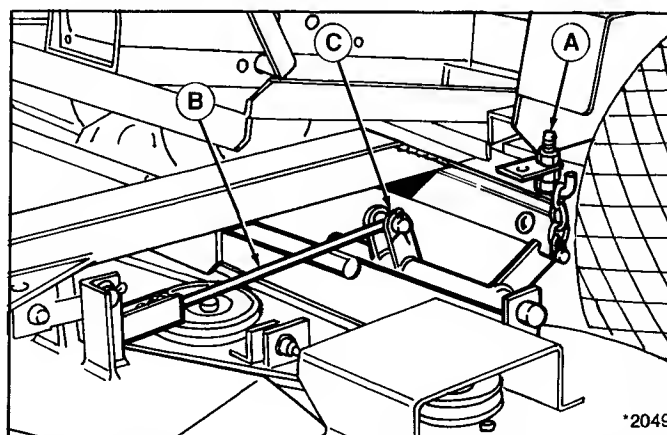

Figure 16.
1. Turn the blades side-to-side and measure distance from outside tips of blades to ground. Measurement should be equal (within 1/8"). For adjustment, refer to figure 16.
- a. Adjust top and bottom nuts on hook assembly (A, figure 16) so that mower blades are level. Chains can be connected on different links from side-to-side if easier to adjust. Then, use nuts to make finer adjustment. Make sure chain links are all in vertical position without kinks.
hand and right hand blades. On 2-blade decks, measure the distance from the ground to rear tip of the right hand blade, and from ground to front tip of left hand blade. Without operator in seat, front tip should be level to 1/8" (3 mm) higher than rear tips. With operator in seat, front tips will be pitched slightly higher than rear tips. For adjustment, refer to figure 16.